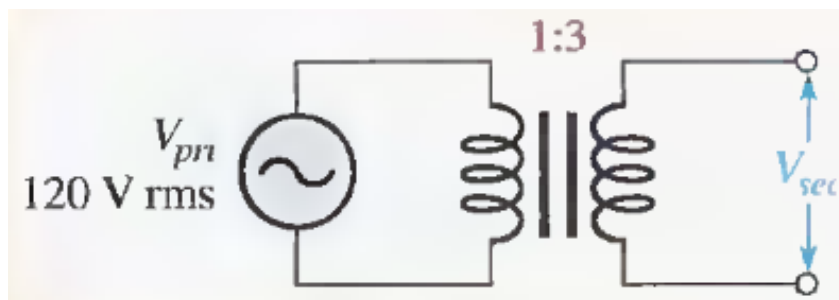

Figure 1
7. The transformer in Figure 1 has a turns ratio of 3. What is the voltage across the secondary winding? **(360v)**